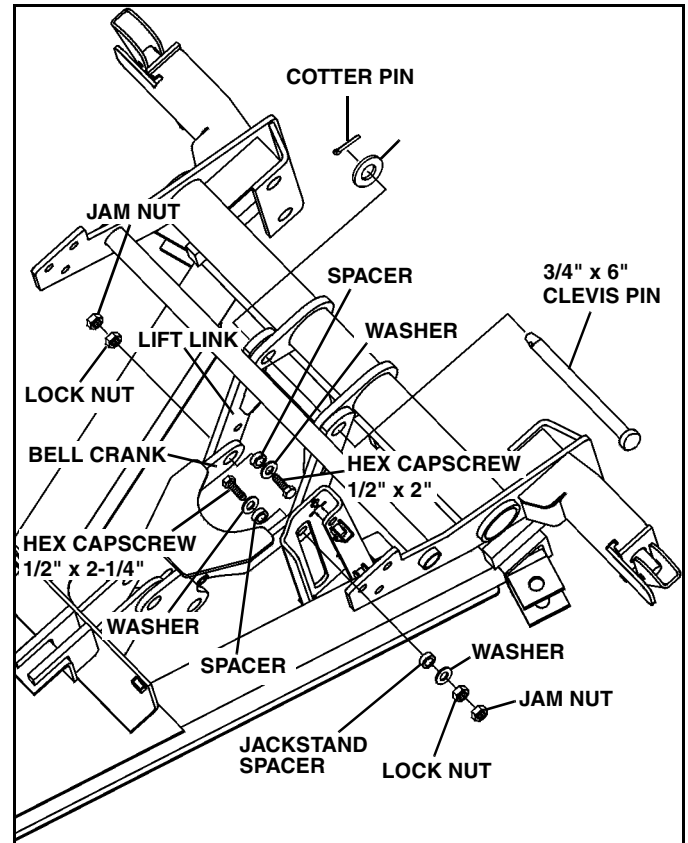

Figure 1-3
8. Pin lift link to light/lift bar, using the 3/4" x 6" clevis pin from the parts bag. Make sure that the gusset is up and the hole in the bars is down or toward the truck. Place a washer over the end and secure with a cotter pin. (See Figure 1-3)
On the passenger's side, use a 1/2" x 2" bolt, special washer, long bushing, lock nut and jam nut. Coat the long bushing with anti-seize compound and insert it into the bell crank. Slide a special washer over the bolt and insert it from the bell crank side. Secure the bolt on the lift link side with a lock nut and jam nut. (See Figure 1-3)
On the driver's side, use a 1/2" x 2-1/4" bolt, special washer, long bushing, short bushing, special washer, lock nut and jam nut. Coat the long bushing with anti-seize compound and insert it into the bell crank. Slide a special washer over the bolt and insert it from the bell crank side. On the lift link side, place the jack stand over the bolt and coat the short bushing with anti-seize compound and insert it into the jack stand. Secure jack stand with a special washer, lock nut and jam nut. (See Figure 1-3)